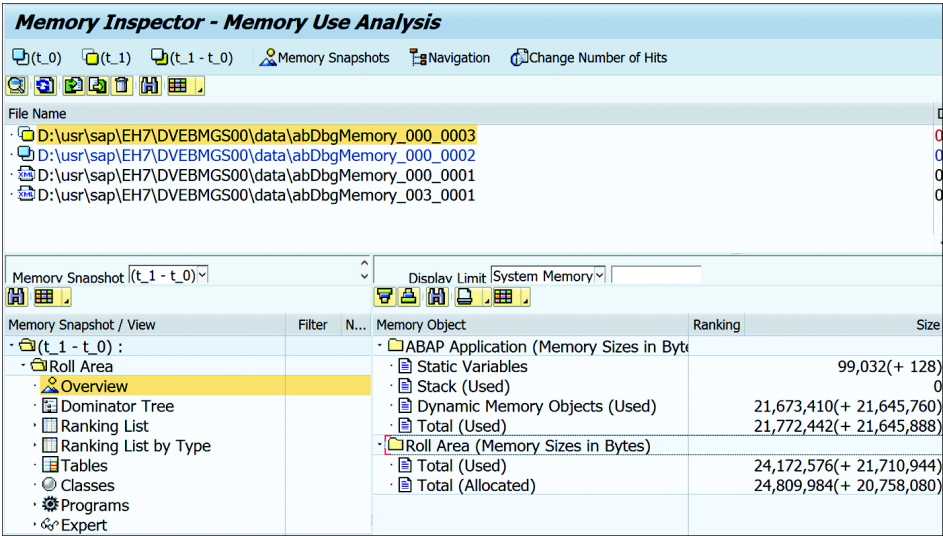

Figure 21.15 Comparing Memory Snapshots
2. Double-click the snapshots you wish to compare and then select T_0-T_1 in the MEMORY SNAPSHOT dropdown field at the center of the screen. This will compare the two snapshots and allow you analyze the changes between the snapshots, as shown in Figure 21.15. For example, you can see the difference in memory occupied by the dynamic data objects between memory snapshots.